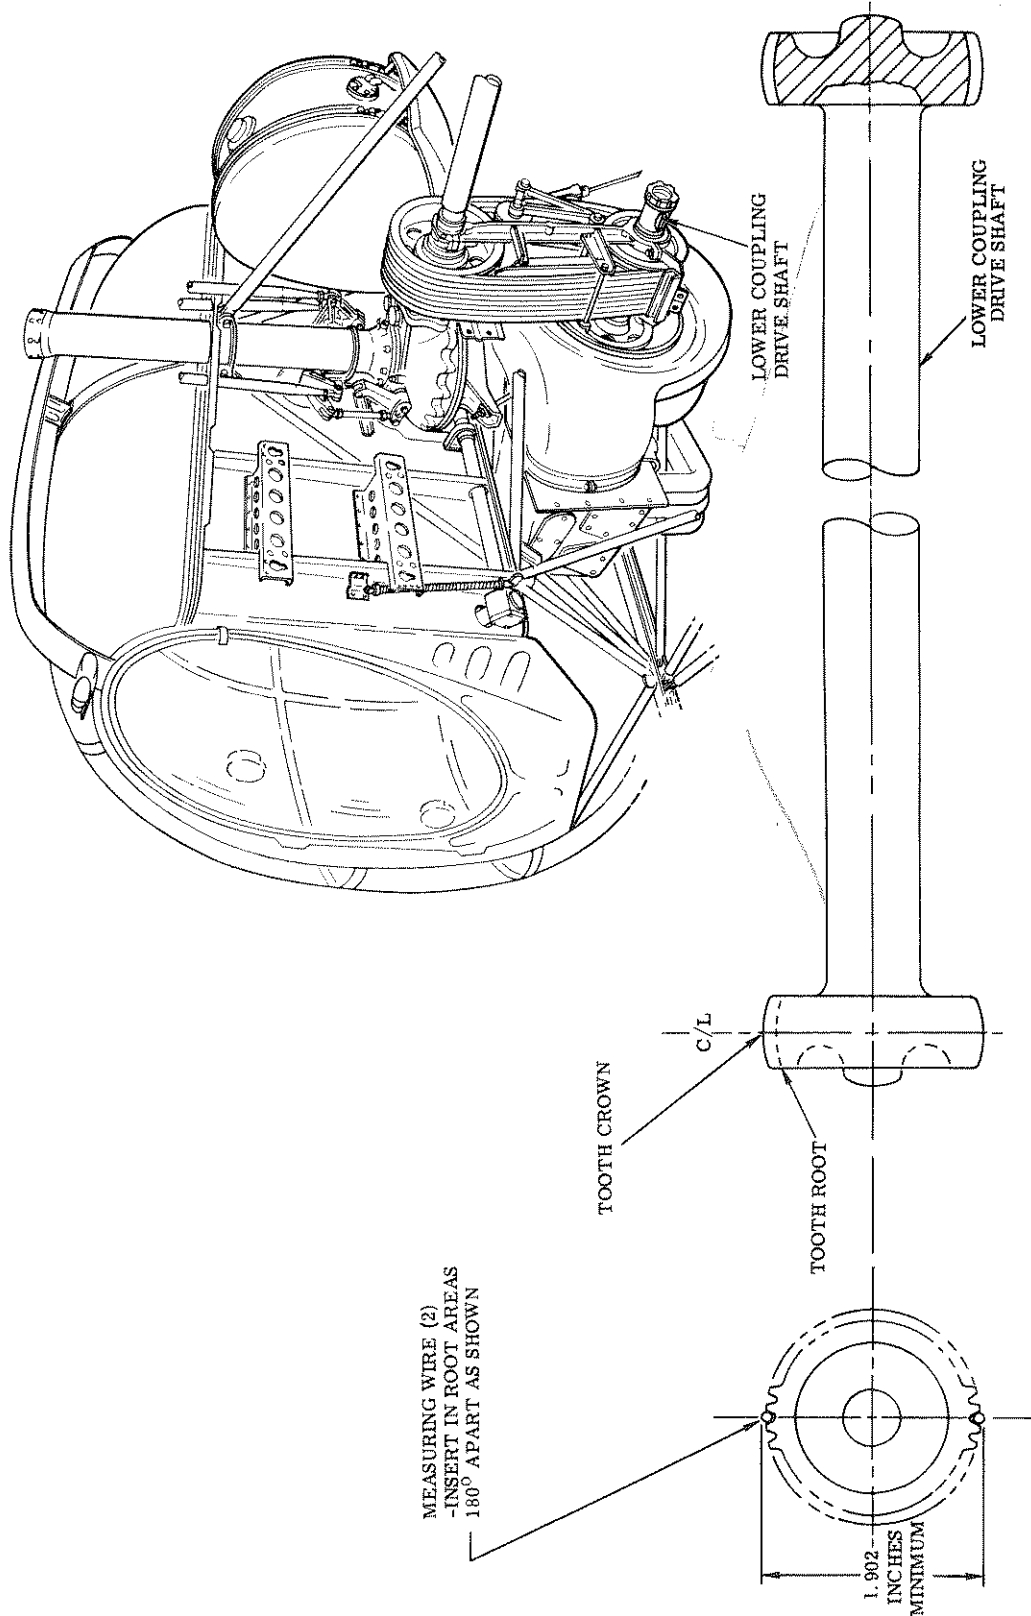

FIGURE 1. WEAR TOLERANCES - LOWER COUPLING DRIVE SHAFT, GEAR TEETH
- (4) Check teeth of fore and aft splines for excessive wear. Insert two measuring wires 180° apart in root areas between teeth; position micrometer on center-line of tooth crowns to obtain measurement over wires. (See Figure 1)